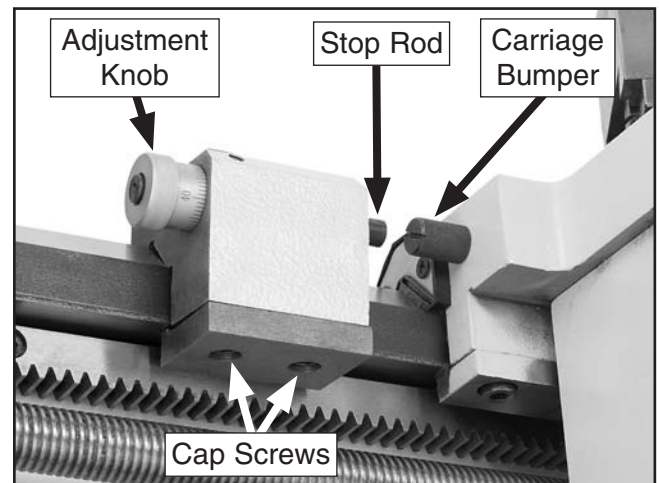

Figure 49. Carriage stop.
2. Loosen the cap screws in the base of the stop, position it along the bedway where needed, then re-tighten the cap screws (see **Figure 49**).